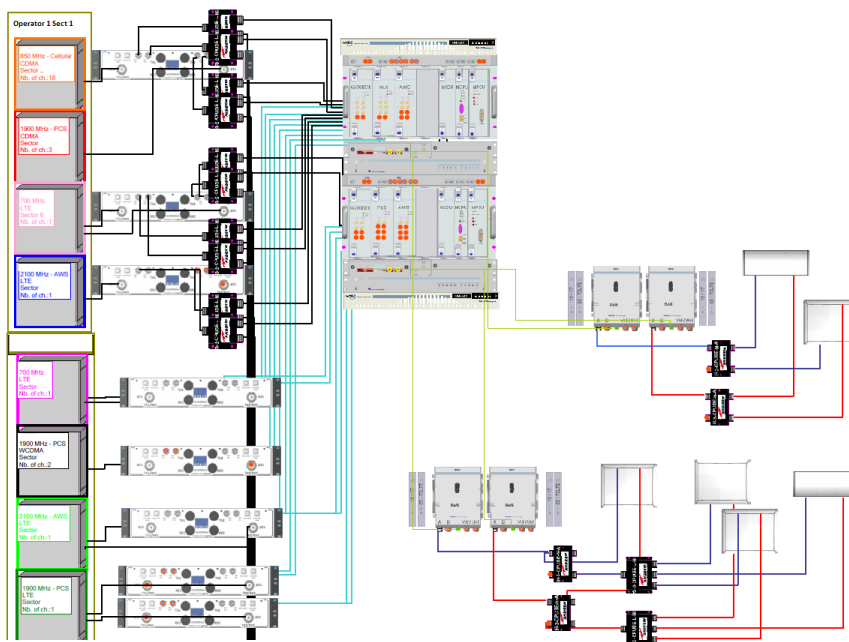

Figure 26. DAS design
1. Design drawings, like the one shown in Figure 26, are highly detailed and accurately depict equipment placement, including riser diagrams and floor-by-floor layouts.